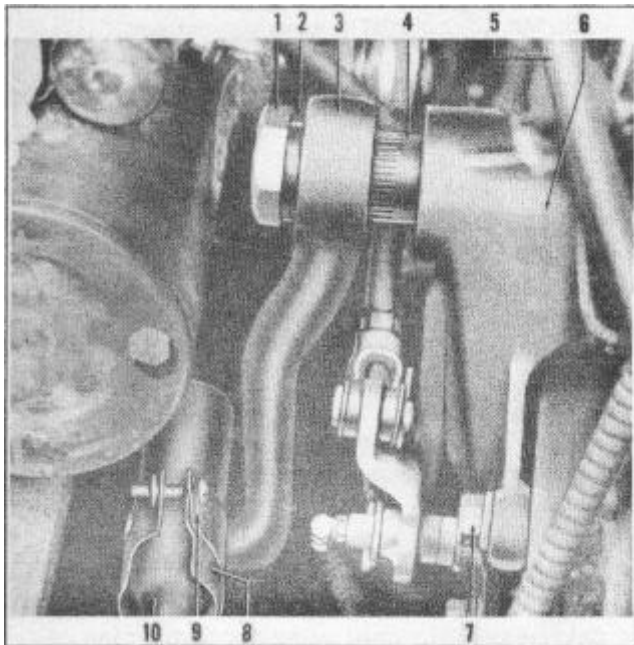
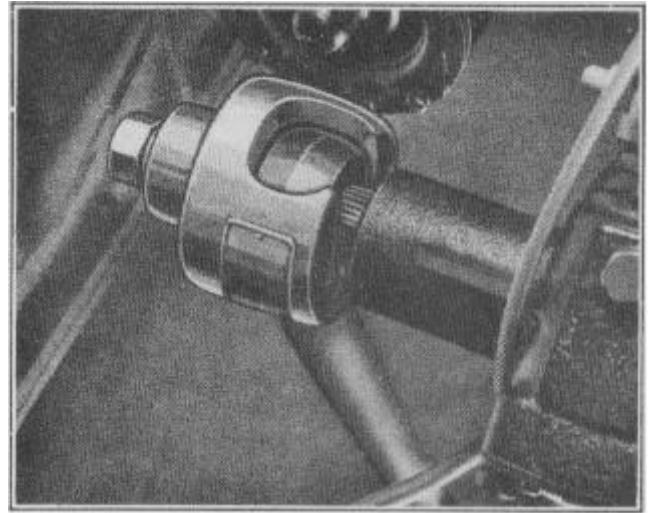

FIGURE 9
FIGURE 10
4. Remove nut (1) lockwasher (2) from sector shaft (4), Figure 9.
5. Install puller jaws of arm Puller J-1374 on inner shoulder of pitman arm (3), Figure 9, and turn puller screw tight against sector shaft removing pitman arm, Figure 10.
6. Remove draglink dust cover bolt (9) and remove covers (8), Figure 9.
6. Remove pitman arm nut and washer and with puller tool J-1374, remove pitman arm, Figure 10.
2. Remove cotter pin and rear plug (3), Figure 10.
3. Remove spring (D), shim pack (A), ball seat (C), and remove Pitman arm ball from drag link.